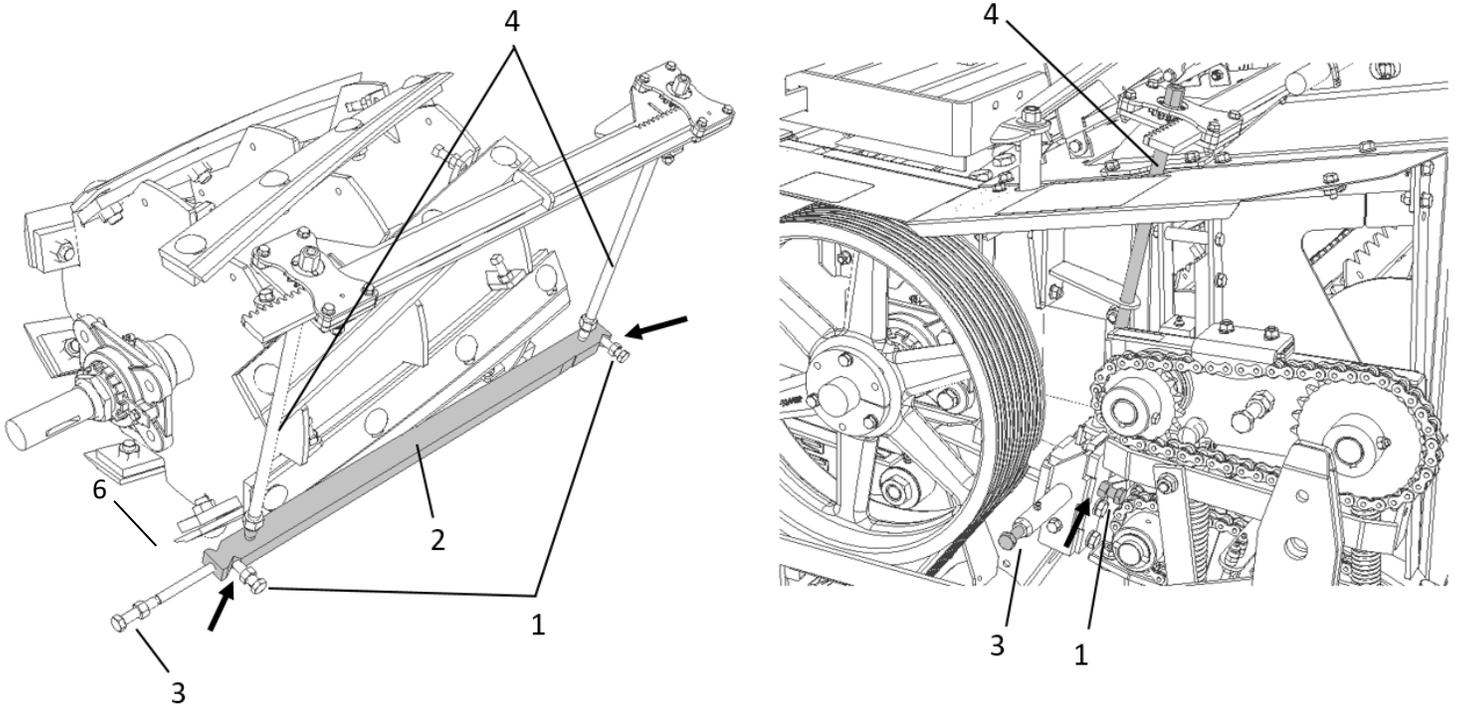

Figure 117 Shear bar initial adjustment
**NOTE: Position the shear bar so that the parallelism adjustment screws (item 1) are embedded in the notches of the bar (see arrow Figure 117 Shear bar initial adjustment).**
**IMPORTANT: Apply “Never Seize” to all bolts and the bottom of the shear bar (items 5 and 6) every time a shear bar is replaced.**